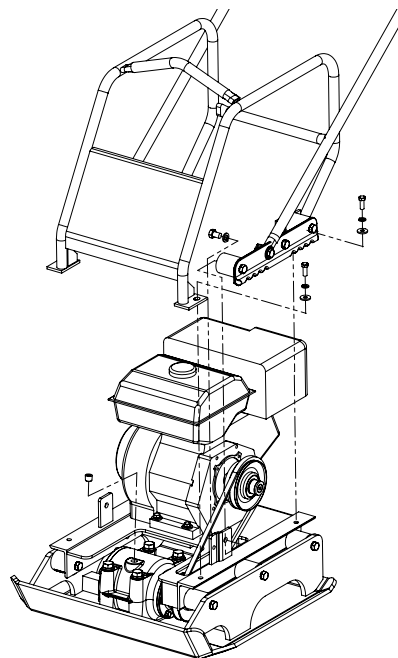

FIGURE 2
5. Remove 4 hex head screws (#11), lock washers (#12) and flat washers (#13). (See figure 2)
4. Remove 2 hex head screws (#15) and lock washers (#16) securing front handle shock mounts to engine deck. (See figure 2)
15. Reinstall 4 hex head screws (#11), lock washers (#12) and flat washers (#13), hand tight only. (See figure 2)
16. Reinstall 2 hex head screws (#15) and lock washers (#16) securing front handle shock mounts to engine deck. Slide roll cage forward or backward to line-up mounting holes with front handle shock mounts. (See figure 2)